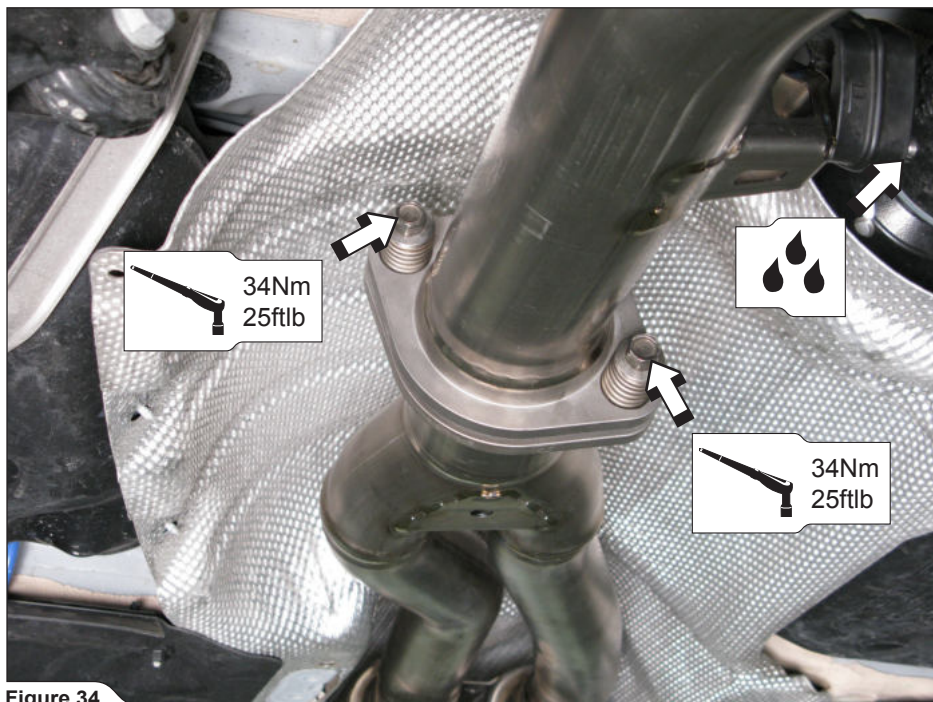

Figure 34
**!** **WARNING:** in case of Evolution exhaust system, use only graphite conical gasket from Akrapovič installation kit in this joint (Figure 34)!